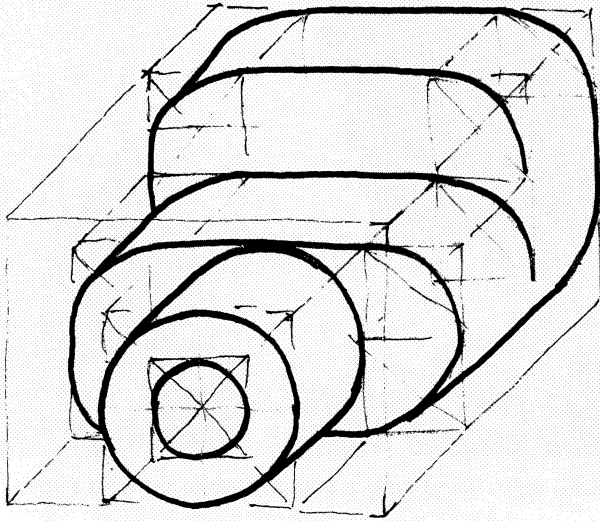
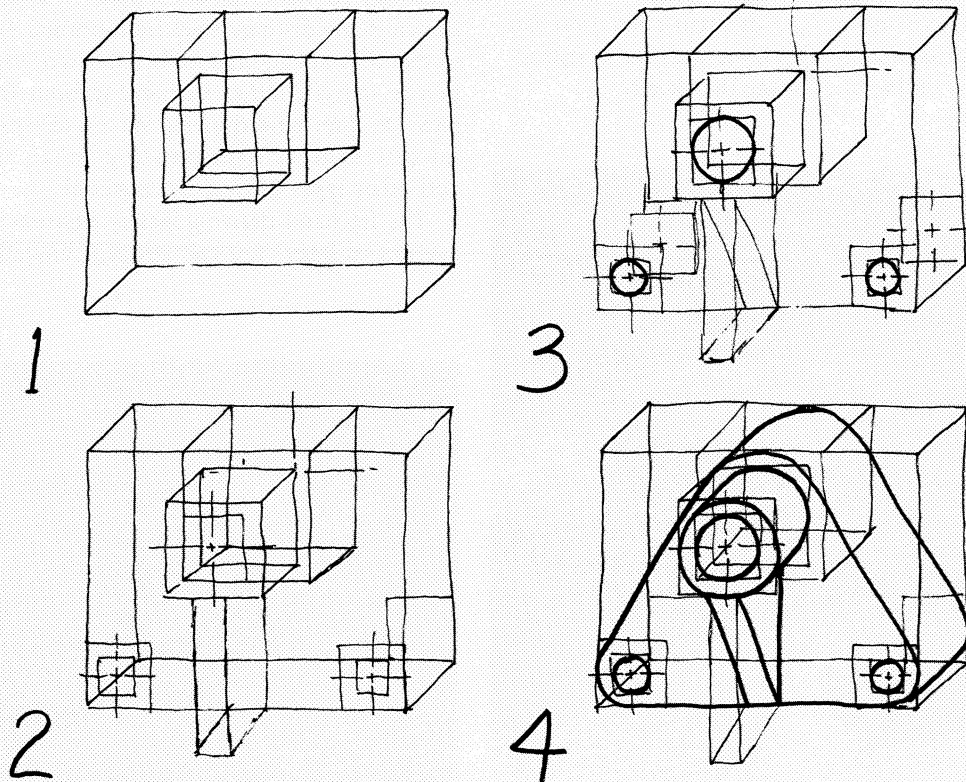

FIGURE 9.47 Oblique Sketch
FIGURE 9.48 Step-by-Step Oblique Construction
Start the oblique sketch as you would a multiview or isometric drawing: Block out the overall dimensions, each feature, and box in the curves (Fig. 9.47). Figure 9.48 shows the four steps in oblique sketching: (1) Block out the part, starting with the front or the rear face, and establish the width and the height. (2) Establish the depth of each face, and then *carve out* the primary features. (3) Locate each circular form with centerlines, and box in the curves. (4) Complete the sketch by finalizing the features and darkening